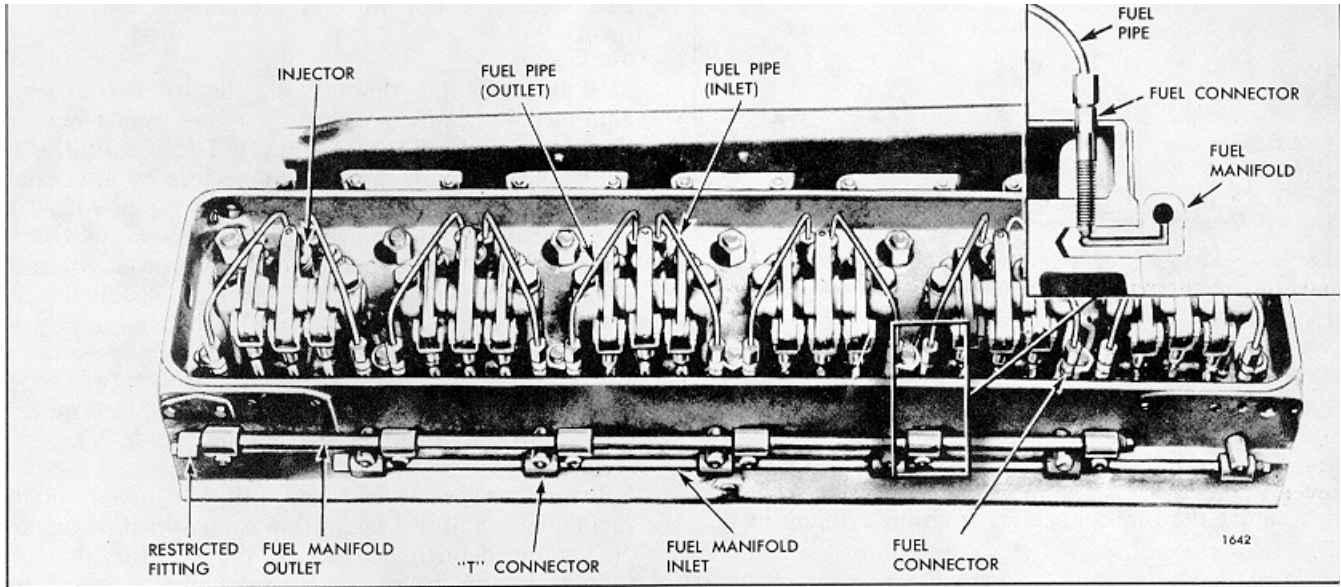

Fig. 2 - Former Cylinder Head with External Fuel Manifolds
The former external fuel manifolds were attached to the side of the cylinder head and locked in position by fuel connectors which set in tapered seats in the fuel manifold tee connectors (Fig. 2).
2. Refer to Fig. 2 and disconnect the fuel oil pipes from the injectors and the fuel connectors.
Refer to Figs. 2 and 4 and note that the tee connectors on the manifolds are on the top side of the lower manifold and on the bottom side of the upper manifold. The upper and lower manifolds are not interchangeable. Install the manifolds as follows:
3. Lubricate the threads of the fuel connectors equipped with a nylon insert. Start the connectors into the tapped holes (inset in Fig. 2). Then centralize the tee connectors with the fuel connectors by alternately turning the connectors while moving the manifold in and out slightly. Centering the tee connectors is important and necessary to ensure leakproof joints. If a lock nut is used with the connector, install the nut with the fibre end down. If the nut is staked, a new copper sealing washer must also be used.